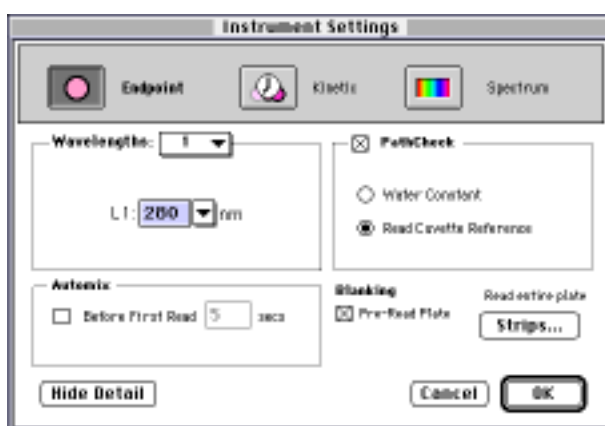

Figure 1: The Instrument Settings dialog box, set up to measure absorbance at 280 nm with PathCheck
- Step 2** Set up the Instrument Settings dialog box as shown in Figure 1. In the Instrument Settings dialog box, select to perform an endpoint read at 280 nm. Select PathCheck, (Pre-read plate will automatically be checked) and select Cuvette Reference. (Alternatively, you can use the factory-installed Water Constant as a shortcut, though it is potentially less accurate.)
The instrument settings and data reduction for the Plate section were set up as shown in Figures 1 and 2 above. The CuvetteSet section was set up for an endpoint read at 280 nm.